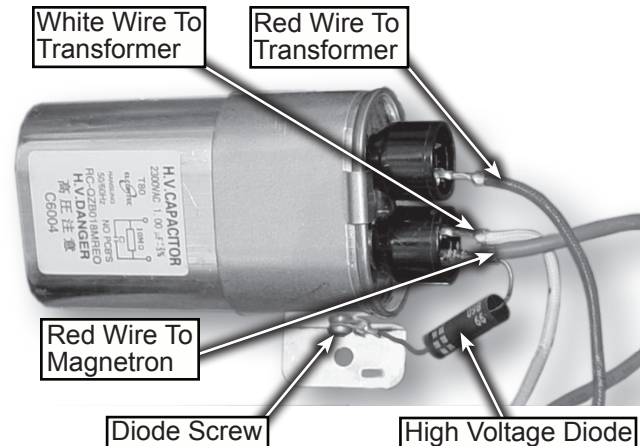

Figure 2
6. Remove the mounting screw from the capacitor bracket and diode ring terminal, see figure 2.